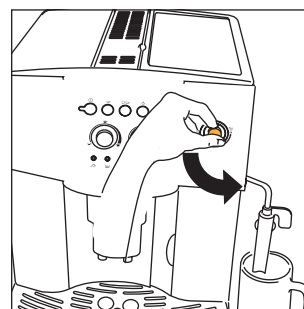
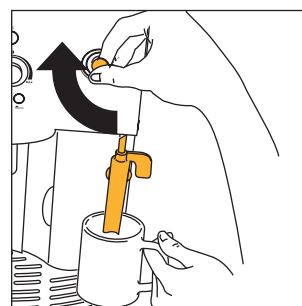
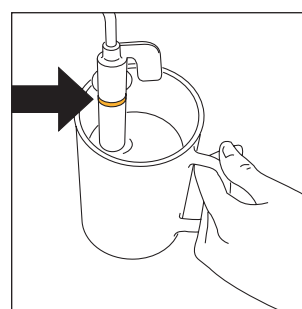

Fig.5
Fig.23
Fig.24
3. **IMMEDIATELY AFTER, WITHIN A MAXIMUM OF 30 SECONDS**, turn the steam knob anticlockwise until it stops (Fig.5) (it is normal for the machine to make some noise).
- Turn the steam knob half a turn in anticlockwise until it stops (Fig. 5): hot water will come out of the milk frother and start to fill the container underneath.
- **Immediately after, within a maximum of two minutes** (otherwise the machine automatically returns to the coffee function), dip the milk frother into the container of milk (Fig. 23), making sure not to immerse the line in relief on the milk frother (indicated by the arrow in Fig. 24) and turn the steam knob half a turn anticlockwise until it stops (Fig. 5). (*Be careful, to avoid being scalded*). The steam released will make the milk froth and increase in volume. To make creamier foam, dip the milk frother into the milk and rotate the container with slow movements from the bottom to the top (you are recommended to limit steam delivery to no more than two minutes at a time).
- Release a little steam for a few seconds by turning the steam knob anticlockwise until it stops (Fig. 5).